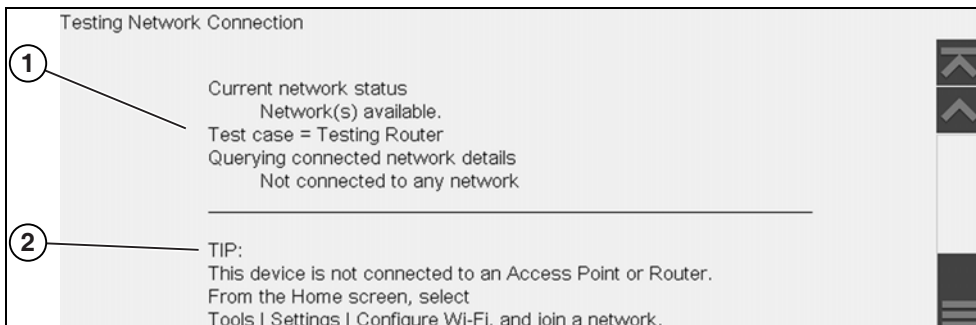

Figure 11-5 View Summary
- If a connection issue(s) is present, select **View Summary** to review the results. The summary information is helpful if you are experiencing difficulties with your connection (Figure 11-5). Scroll through the summary information to review the test results for each system and Tip messages for the current connection issue. See *Connection Tests - Troubleshooting* chart in “Wi-Fi Troubleshooting and Status Messages” on page 77 for additional information.